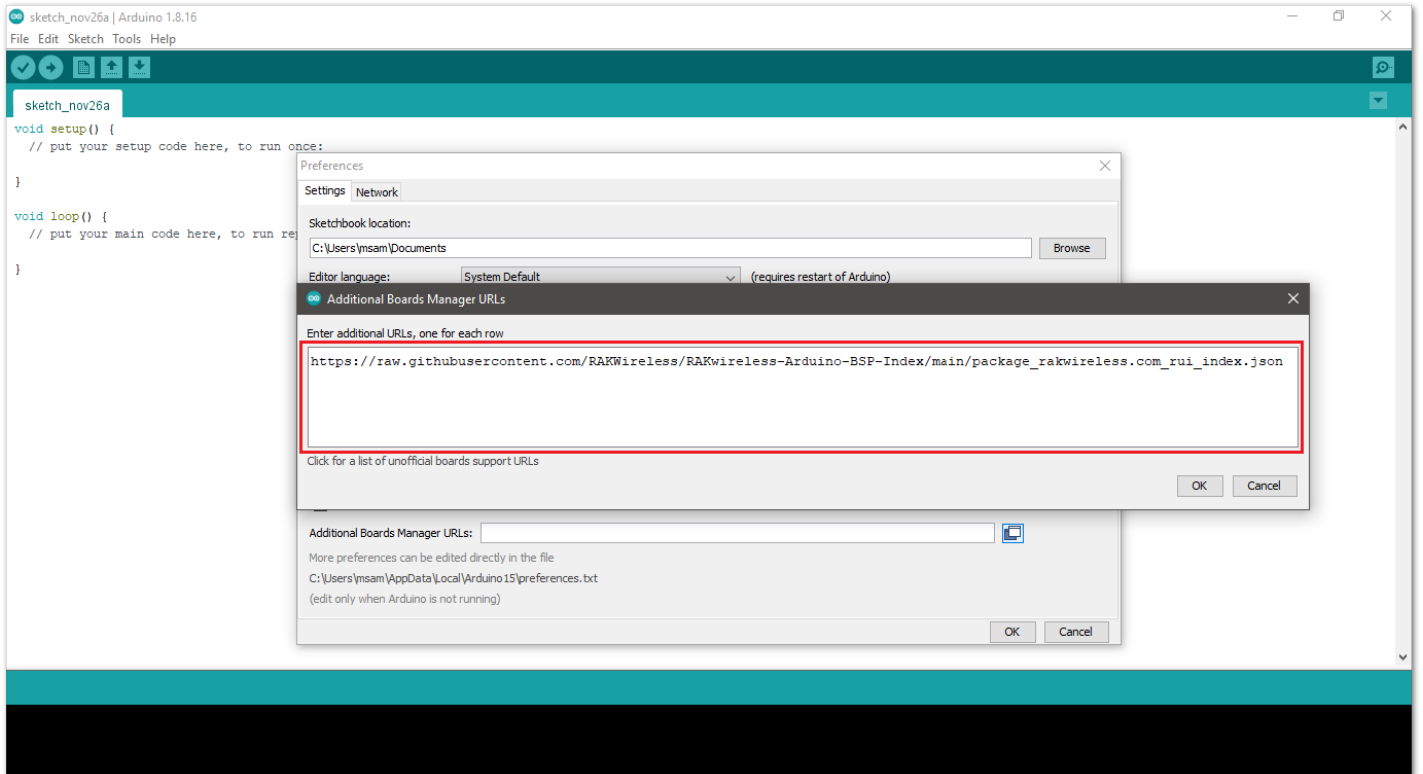

Figure 6: Add additional board manager URLs
3. Copy the URL below and paste it on the field, as shown in **Figure 6**. If there are other URLs already there, just add them on the next line. After adding the URL, click **OK**.